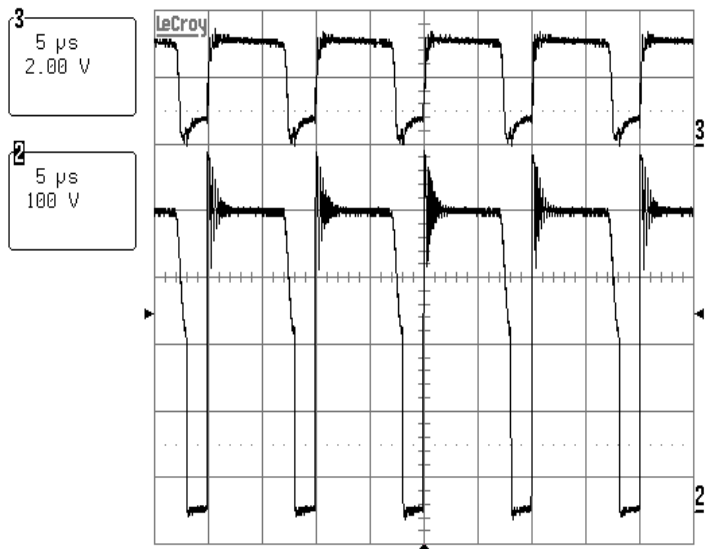

Fig 3) Drain (D) voltage of IRIS4011 (CH2) and the FB pin voltage (CH1) at 265VAC in/Full load output
Fig 3) shows the drain voltage and the feedback pin (FB) voltage at 265VAC input again with a full load output. Note that at the start of the ON time for the FET the FB pin signal has a higher dv/dt rise. This is due to the feedback signal from the output creating the offset voltage to keep the output power constant. Also note that the on-time is shorter and hence the operating frequency is higher.